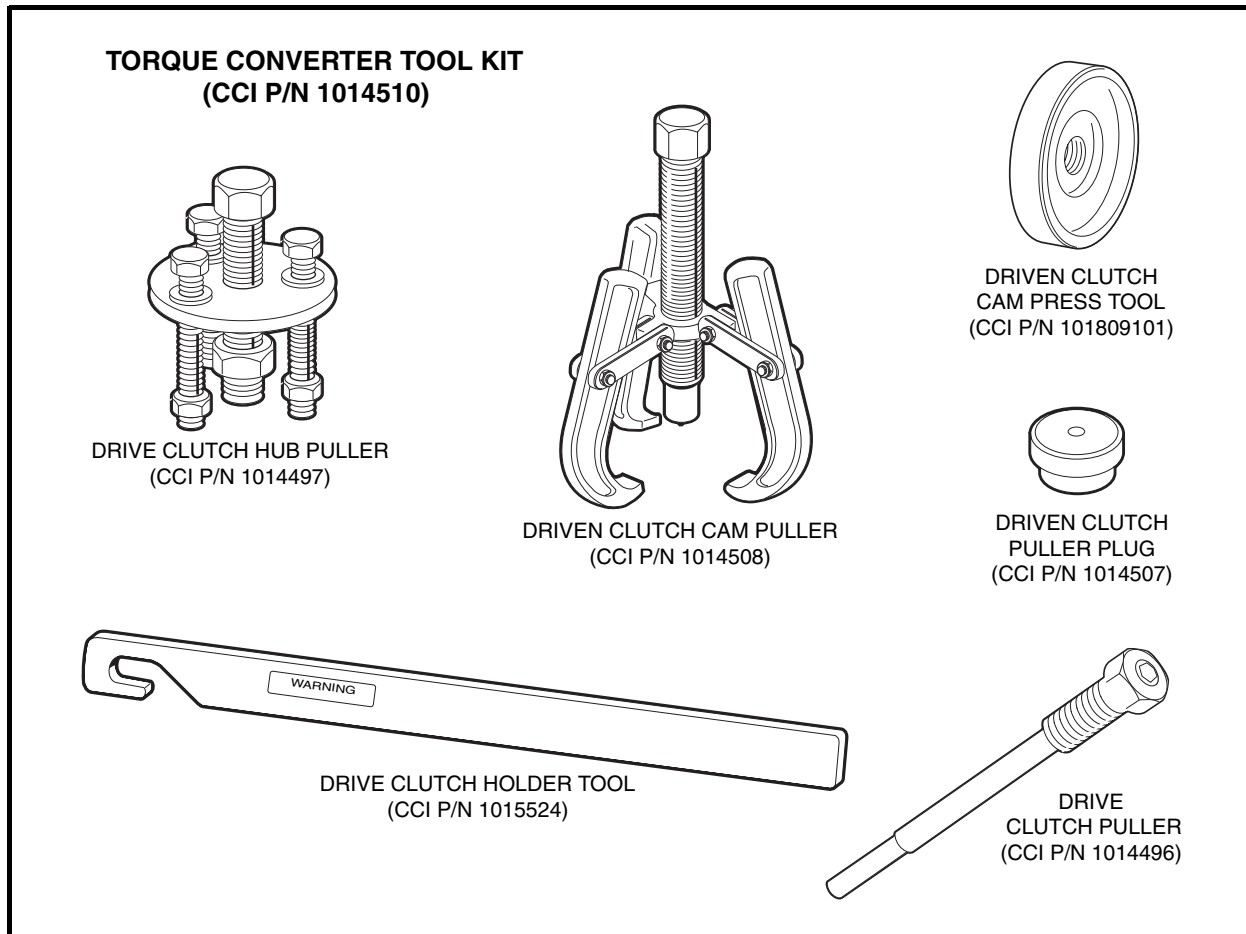

Figure 17-1 Torque Converter Tool Kit
- Torque Converter Tool Kit (CCI P/N 1014510) (**Figure 17-1, Page 17-2**).